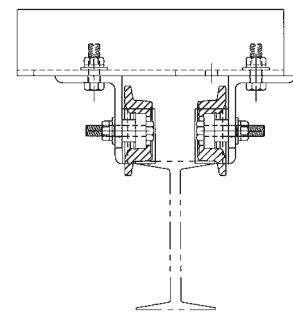

Figure 5 — Top Running
1/2" axle bolts to 30 foot-pounds torque. Place the adjustable end truck on the parallel beam/rail. Loosen the 1/2" bolt located in the slot at the end of the truck. Move the two (2) end truck halves so that there is 1/8" clearance between the wheel flanges and the beam flange/rail on each side. Tighten the 1/2" bolt to 85 foot-pounds torque. Repeat procedure for the other end of the truck. **The bolt must be tight or the truck might come off the beam.** Repeat the above procedure on the second end truck included with your kit (See Figures 5 and 6).
3. Position the trucks directly opposite one another on their runways. Be sure each truck is centered on the beam/rail, not riding toward either side. Carefully measure the distance between the eight (8) holes for attaching the span-beam to accept 1/2" diameter grade 5 bolts, which are included in your kit.